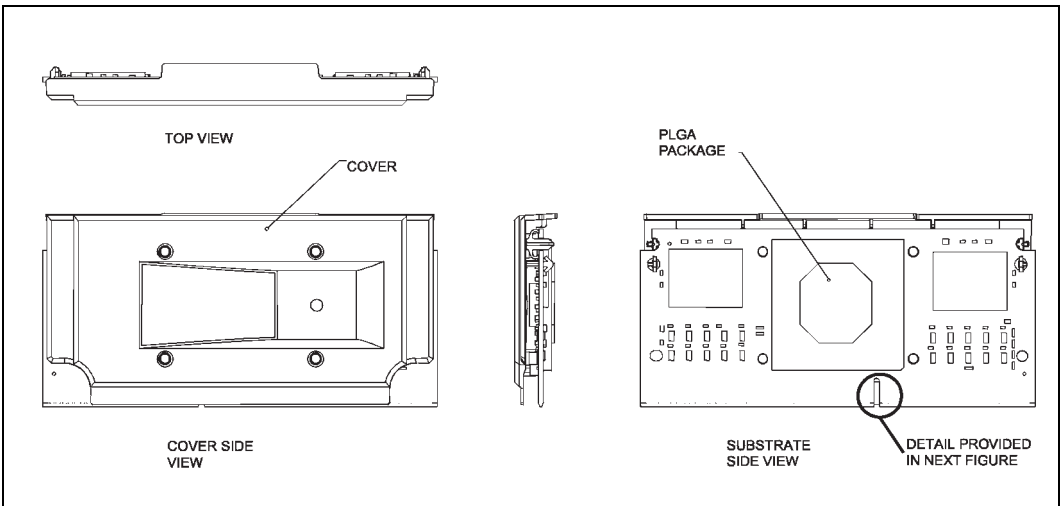

Figure 5. S.E.C.C.2 Package with PLGA Core and L2 Cache
- Figure 5. S.E.C.C.2 Package with PLGA Core and L2 Cache11